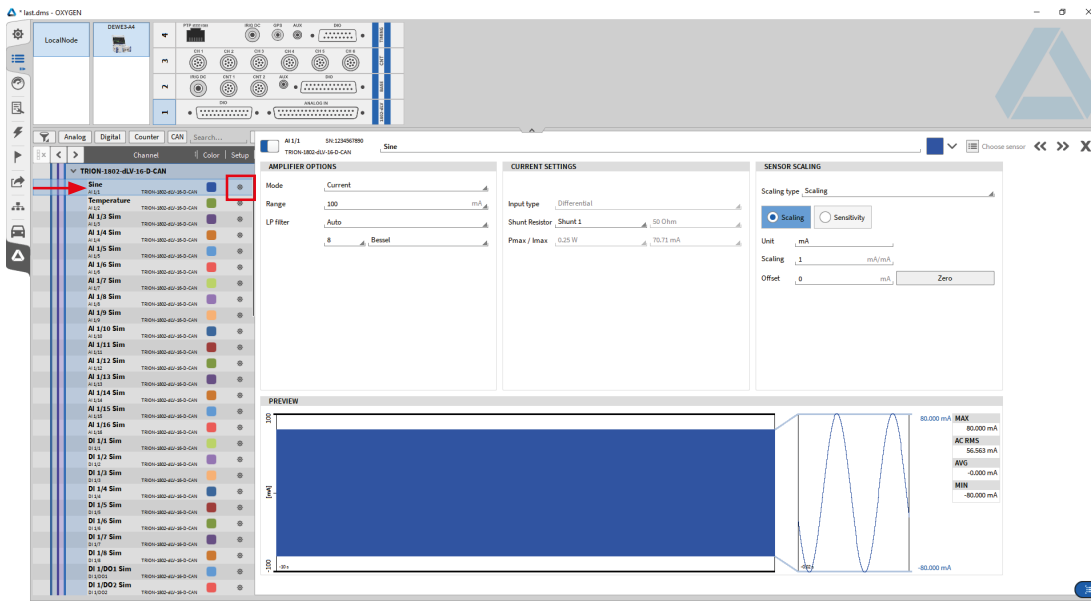

Fig. 8: Changing channel settings
2. Alternatively, the channel settings will also open by clicking on the gear button (see Fig. 8).